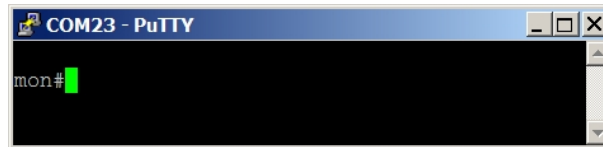

Figure 6: Open terminal window for module configuration via serial line
Click on „Open” button in „PuTTY” program and open the terminal window. After pressing of „ENTER” key there will appear a command prompt „sj” which announces that the module is ready to be configured (see figure 6).
- the command must be entered only when a prompt for command appears in front of the cursor mark (colored or flashing little square); the prompt is either „sj” or „mon” format (see figure 6);